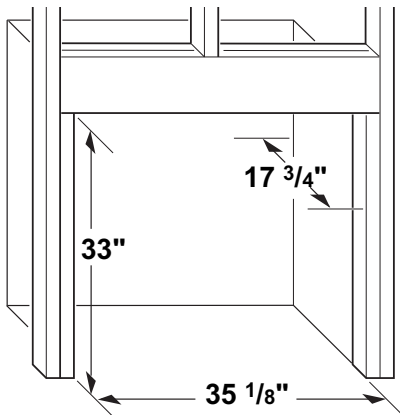
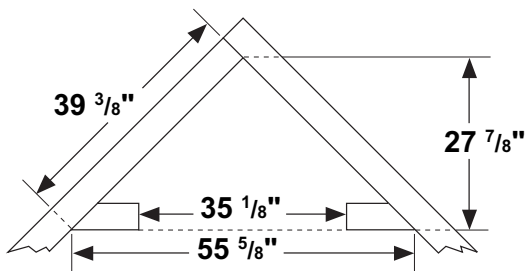

Figure 12 - Rough Opening for Installing in Wall
Figure 13 - Rough Opening for Installing in Corner
1. Frame in rough opening. Use dimensions shown in **Figure 12** for the rough opening. If installing in a corner, use dimensions shown in **Figure 13** for the rough opening. The height is 33" which is the same as the wall opening above.